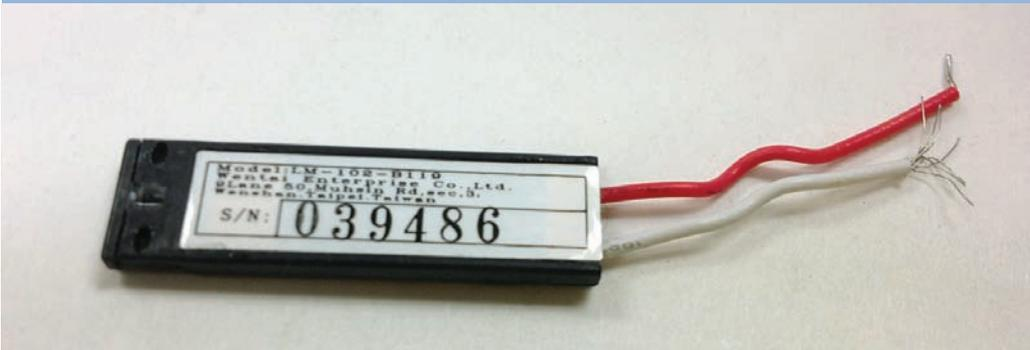

FIGURE 2.9 This laser card is rated for 0.8mW and is powered by 3 volts.
- **Laser card**—See Sparkfun P/N COM-00594. Figure 2.9 shows the laser card I used for this project.